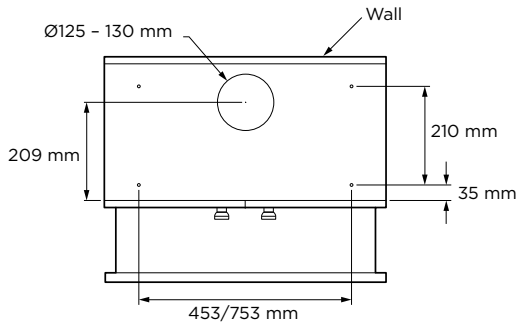

Fig.1 Mounting to underside of cabinetry
- Attach the rangehood to a shelf mounted at the preferred height in your wall units, by drilling 4 holes, 7 mm in diameter, (see Fig.1) and fixing with the 4 screws supplied.